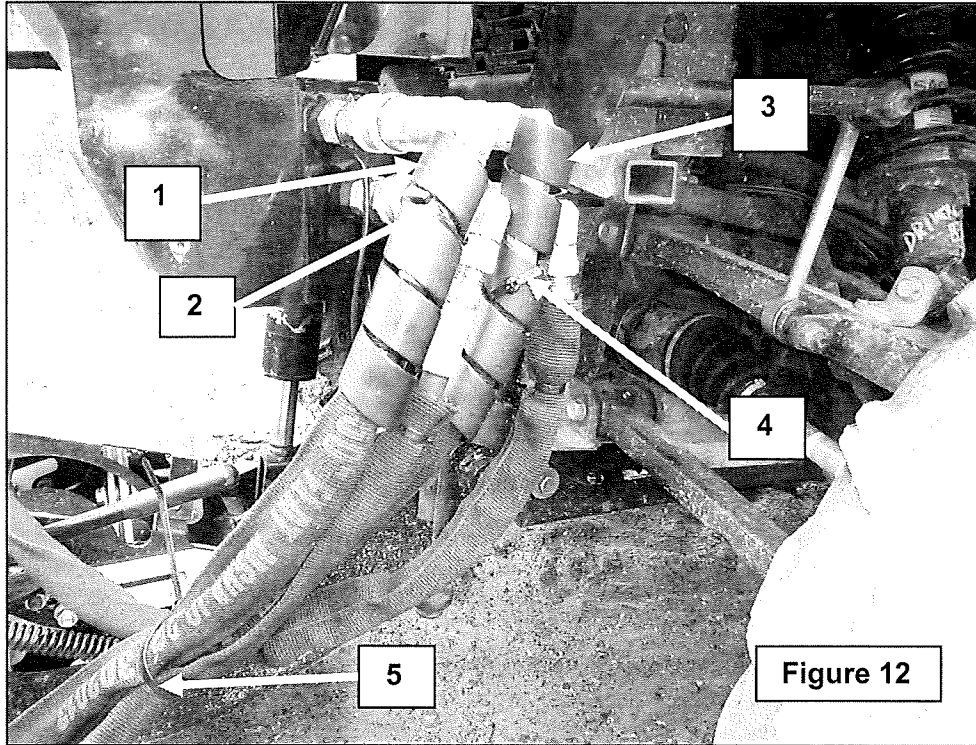

Figure 12
12. **Figure 12:** Install a plastic guard (item 1) on the metal end of the hose with a green identification ring and secure with a nylon tie wrap (item 2). Install a plastic guard (item 3) on the metal end of the hose with an orange identification ring and secure with a nylon tie wrap (item 4). Secure the four hoses together with a nylon tie wrap (item 5) in the location shown in the figure.